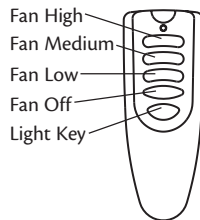

Figure 30 - remote operation
2. Press the remote control's HIGH speed button (refer to Figure 30). The fan should start and reach it's maximum speed. If the fan does not start, or is turning too slow, turn off the power at the wall switch. Pull the fan's pull chain to change speed. Re-apply power and try High speed again. Repeat this procedure until you have confirmed that the fan's pull chain is set to HIGH speed.